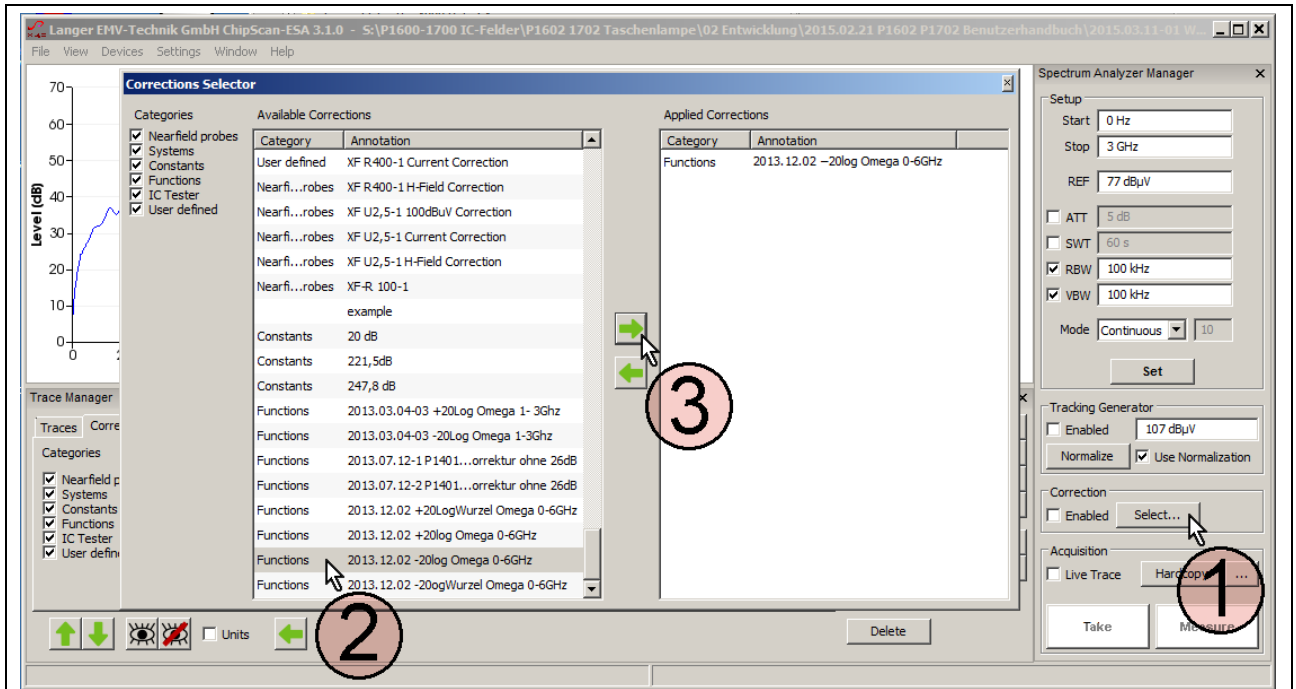
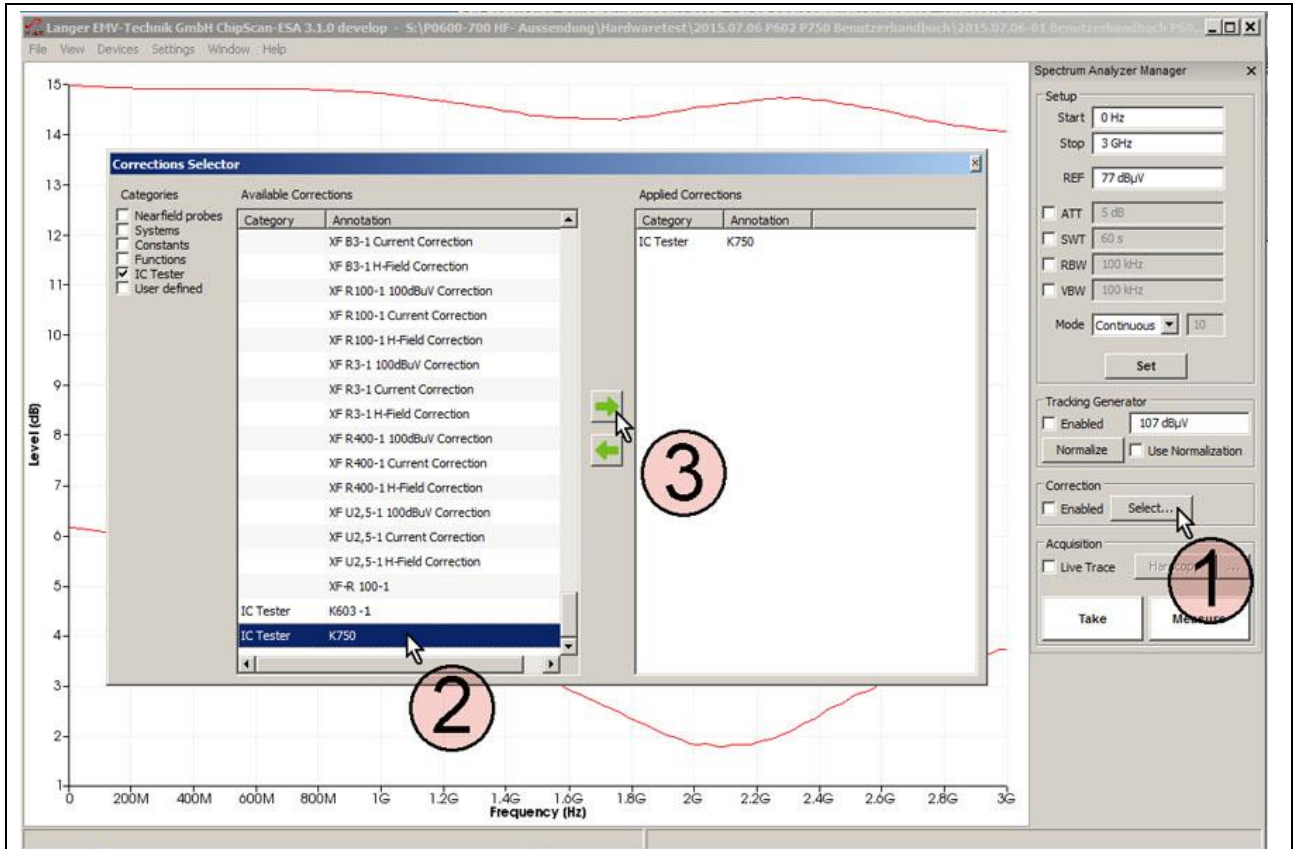

Figure 28: Using mathematical functions by activation in the "Corrections Selector".
Figure 29: Loading the correction curves K750 to the "Corrections Selector".
Mathematical functions can also be used (**Figure 28**): division by ω in the time domain, for example. This corresponds to a subtraction of $20 \text{ Log } \omega$ in the logarithmic form.
Click the "Select" button (mouse cursor ① **Figure 28**) under "Correction" in the "Spectrum Analyzer Manager" to select the respective correction curve.
The "Corrections Selector" window opens **Figure 28**. Click and activate the correction curve $-20 \text{ Log } \omega$ with the mouse cursor ②. Click the "Arrow right" ③ button to move the correction curve to the "Applied Corrections" list. Other correction factors and correction curves (**Figure 29**) such as K603-1 or K750 can be loaded in the same way or selectively (**Figure 29**).